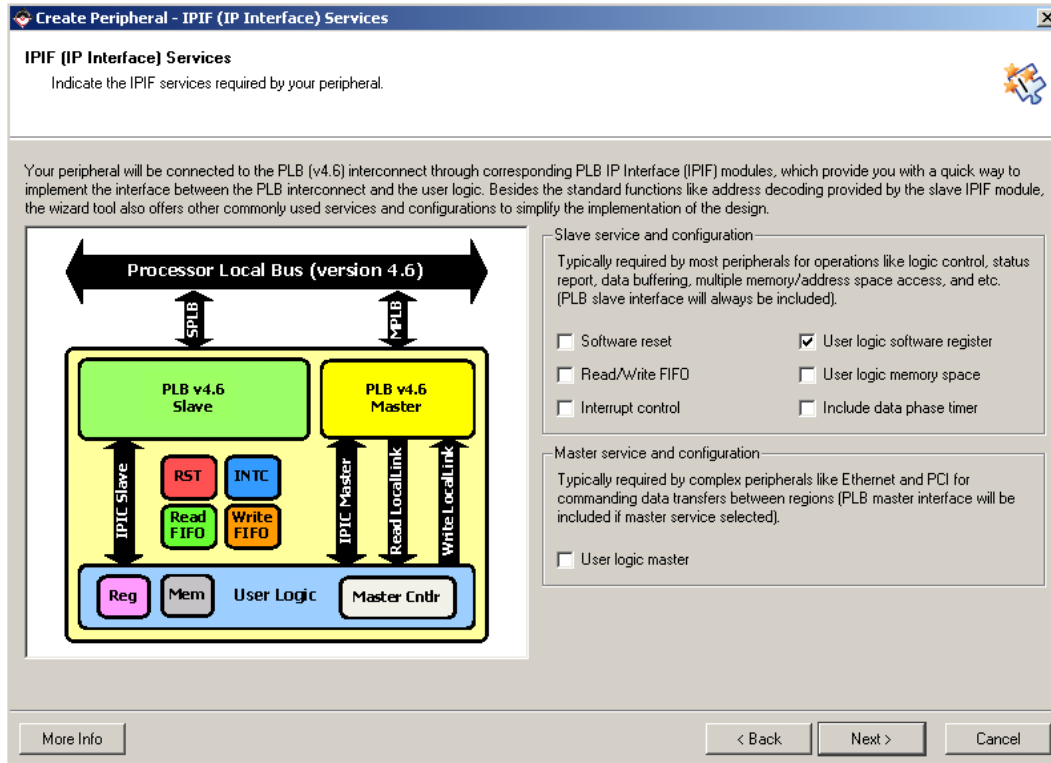

Figure 14: Create Peripheral - IPIF Services
- Click **Next**. The Create Peripheral - IPIF Services dialogue enables the selection of several services. For additional information regarding each of these services, select More Info. **Select** the User logic S/W register support option as shown in Figure 14.